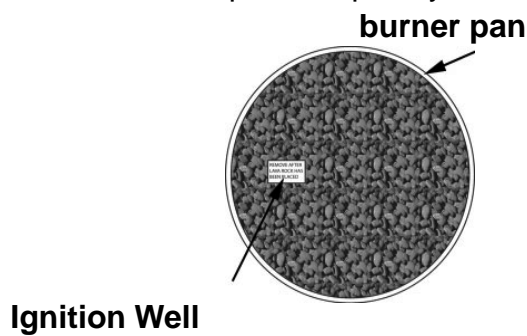

Figure 8
7. Pour the fire ice into the burner pan completely covering the burner. See Figure 8.